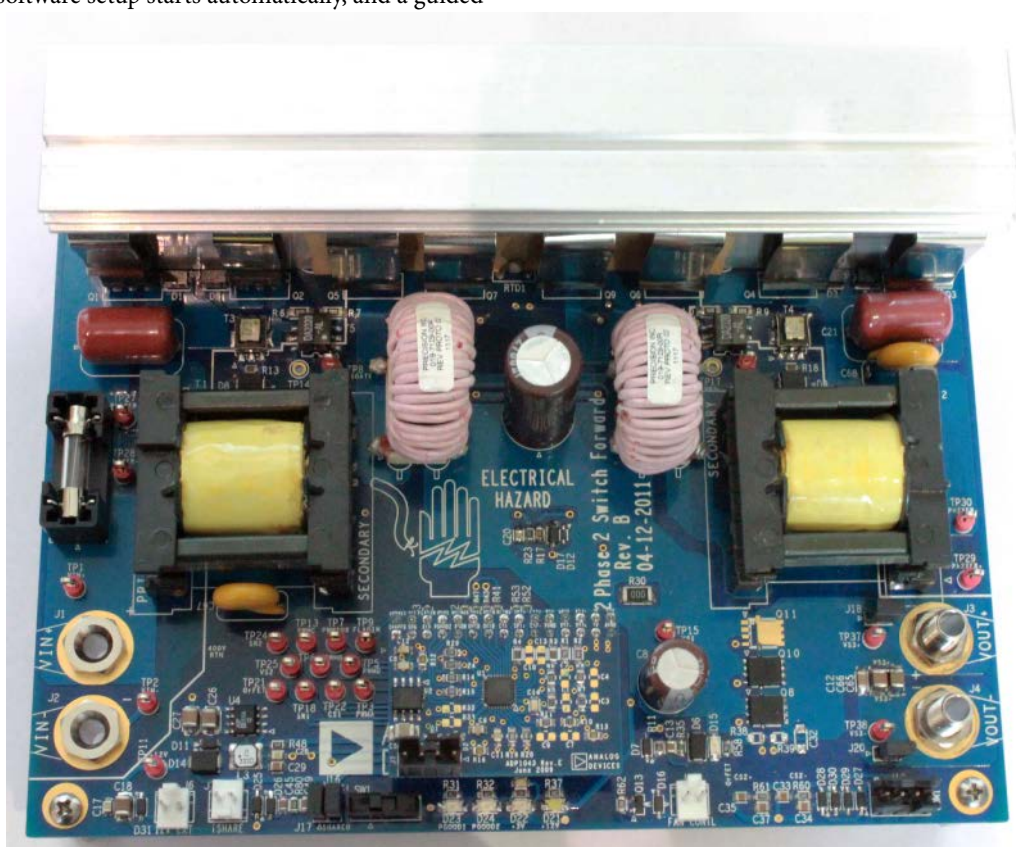

Figure 6. Printed Circuit Board with Daughter Card
2. Insert the daughter card into Connector J5, as shown in Figure 6.